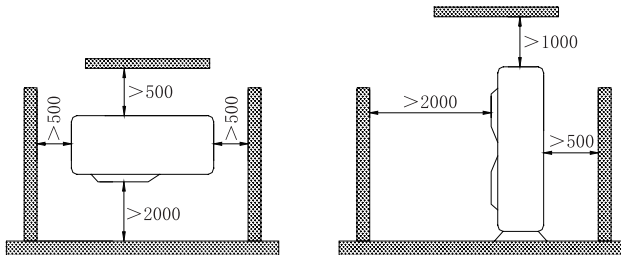

Fig.6
- 5) The installation space of the unit should be as required in Fig.6.
1) Refer to Fig.6 for the moments of torque for tightening screws.
3) After that, tighten the screw by the torque wrench unit it clatters (as shown in Fig.6).